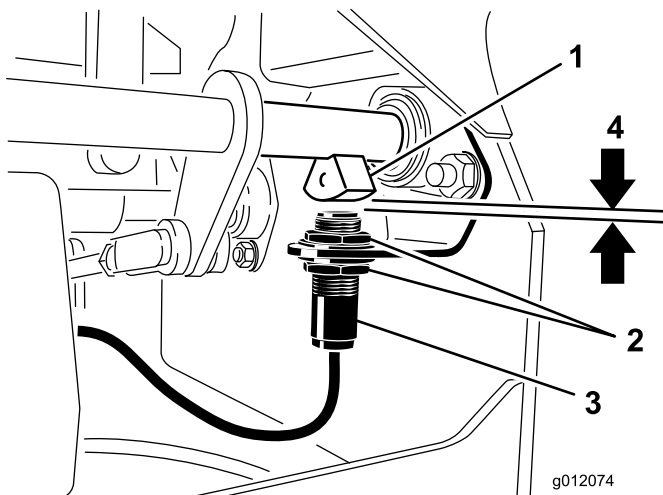

Figure 53
4. Move the switch up or down on the bracket until the distance between the brake shaft sensor and the switch plunger is 5/32 inch (3.9mm) (Figure 53).